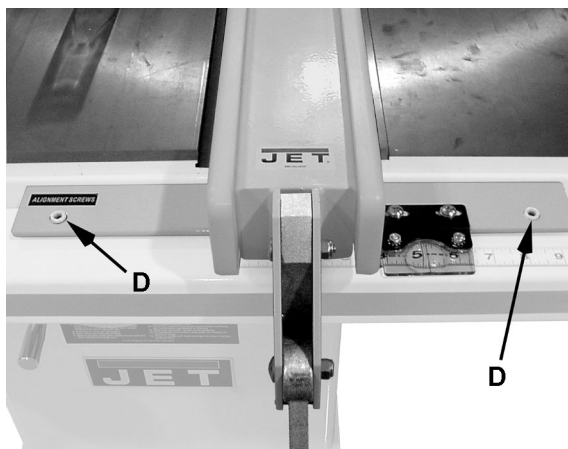

Figure 15
4. Raise or lower two nylon adjustment screws (D, Fig. 15) *the same number of turns* until the space between the bottom of the fence and the table is the same. Care must be taken to raise or lower the fence on each side equally or the fence may not be 90° to the table after the height adjustment is performed.